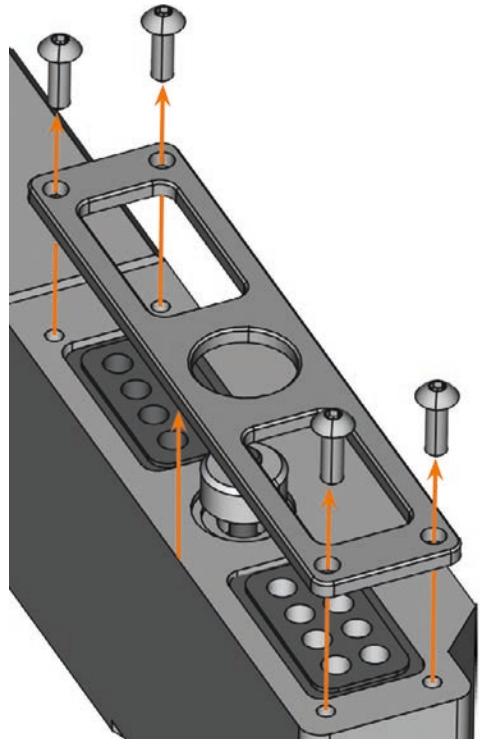

Fig. 36: Loosening the screws and lifting the cover
- ① The documentation for the manufacturing software contains step-by-step instructions for drilling the inserts. Below you find a description of how to replace the tool changer inserts in the machine.
- M4. Loosen the 4 screws on the upper side of the tool changer and lift the cover (➔ Fig. 36).